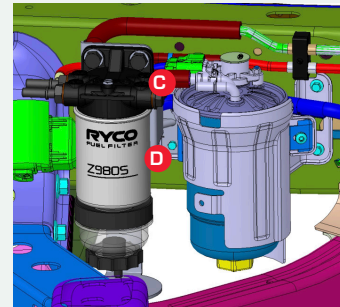

FIGURE 6
- 6 Fastener the OE filter M6 bolts at point C & D as per FIG. 6.